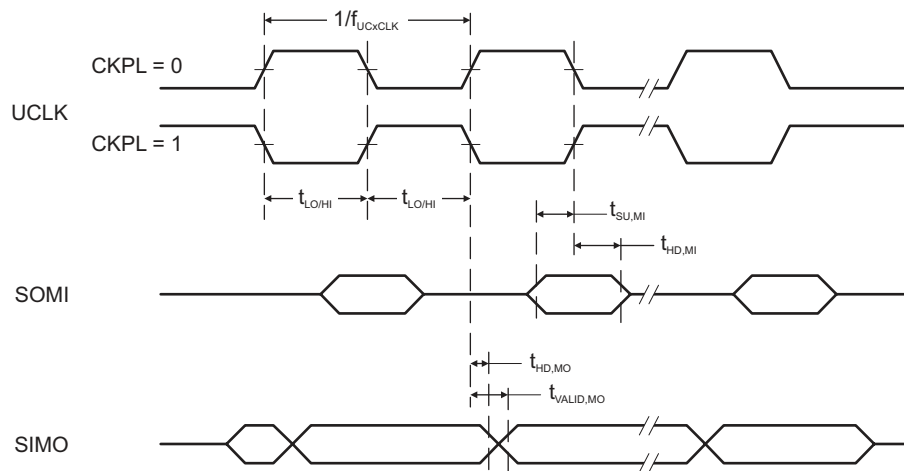
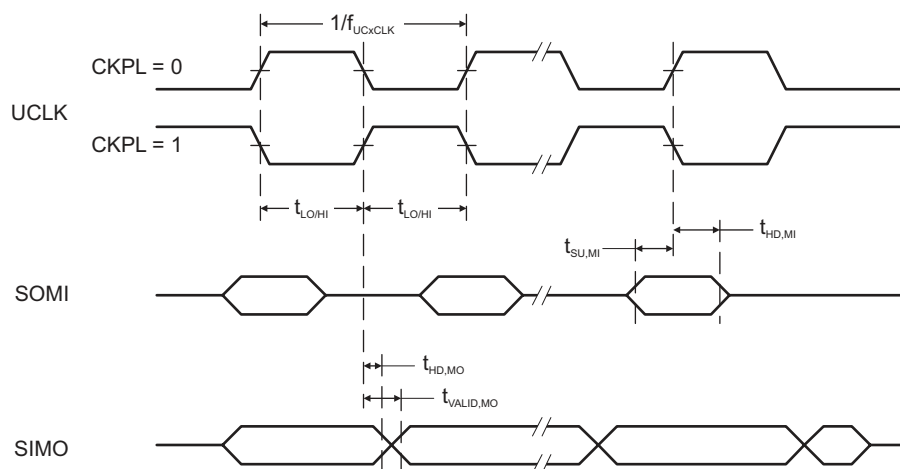

Figure 7-12. SPI Master Mode, CKPH = 0
Figure 7-13. SPI Master Mode, CKPH = 1
(2) Specifies the time to drive the next valid data to the SIMO output after the output changing UCLK clock edge. See the timing diagrams in Figure 7-12 and Figure 7-13.
(3) Specifies how long data on the SIMO output is valid after the output changing UCLK clock edge. Negative values indicate that the data on the SIMO output can become invalid before the output changing clock edge observed on UCLK. See the timing diagrams in Figure 7-12 and Figure 7-13.